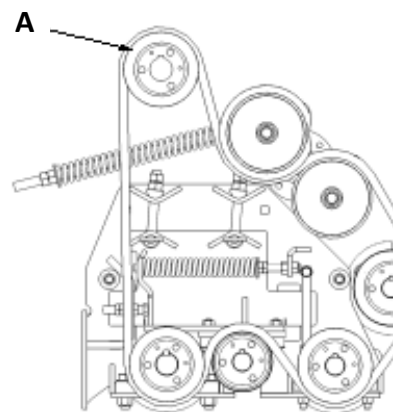

Figure 7-25: Front Grabroll Speed Adjustment
4. Remove the sheave (A), shown in Figures 7-25 and 7-26, by first removing sheave bolts.